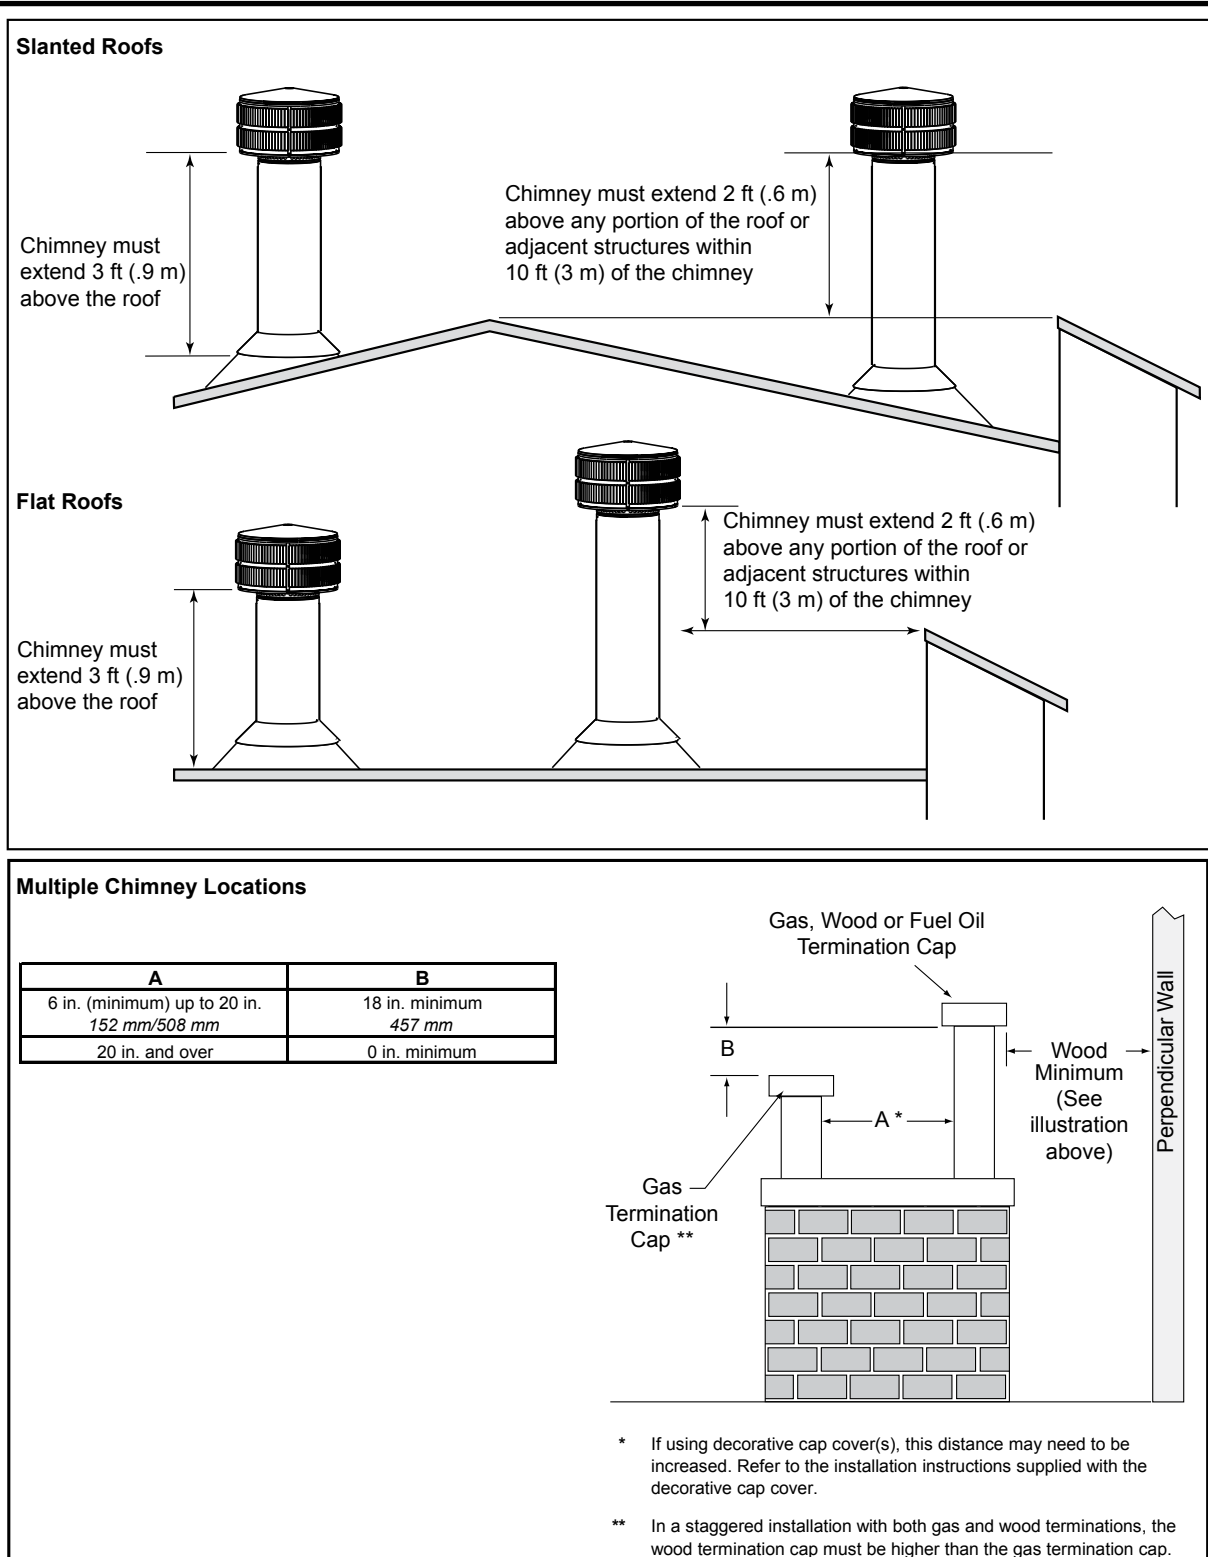

Figure 4.19 Multiple Chimney Locations
- The bottom of the termination cap must be at least 3 ft (.91 m) above the roof AND at least 2 ft (.61 m) above any portion of roof within 10 ft (3.05 m) as shown in Figure 4.19.
- See Figure 4.19 for distance required between caps.